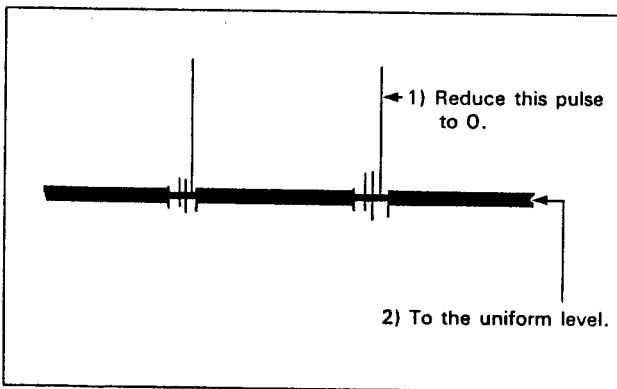

Fig. 1-5.
- 1) Rotating VR902 (OGL) clockwise from extreme counterclockwise, point adjust for 0 level of pulse in H blanking signals on TP904, as shown in Fig. 1-5. Further advance the VR until the wiper reads 1V below that of 0 pulse point (approx. 20 degrees).
- 2) Adjust VR904 (OBO) so that the blanking pulse and signal are equal to each other in level on TP904. (See Fig. 1-5.)